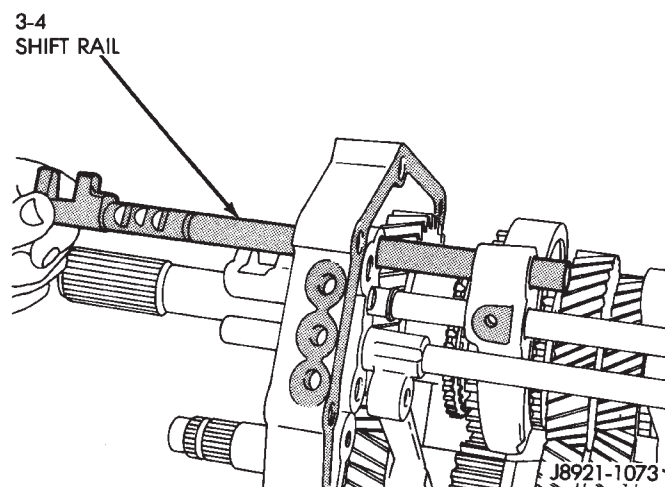

Fig. 44 Removing 3-4 Shift Rail
- (4) Remove 3-4 shift rail from shift fork and intermediate plate (Fig. 44).